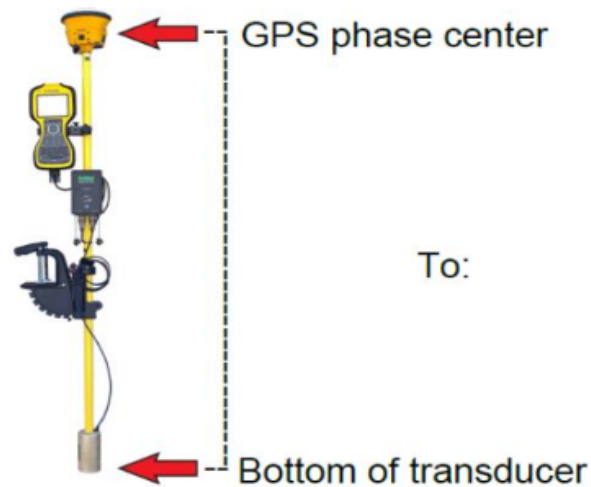
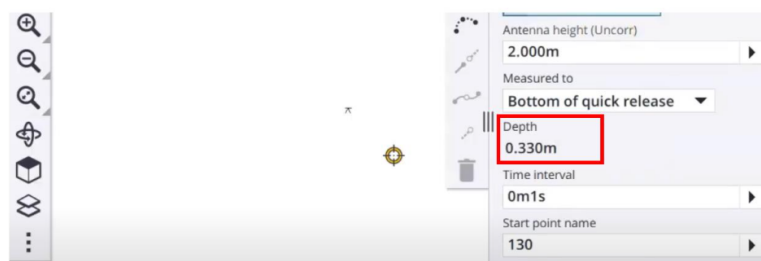

Figure 6: Measure Offset Between Antenna and Transducer.
Figure 7: Enter Antenna Height in Trimble Access
1. Measure antenna height from GPS measure point to bottom of echosounder (Figure 6) and then store this value in the Antenna Height field (Figure 7).